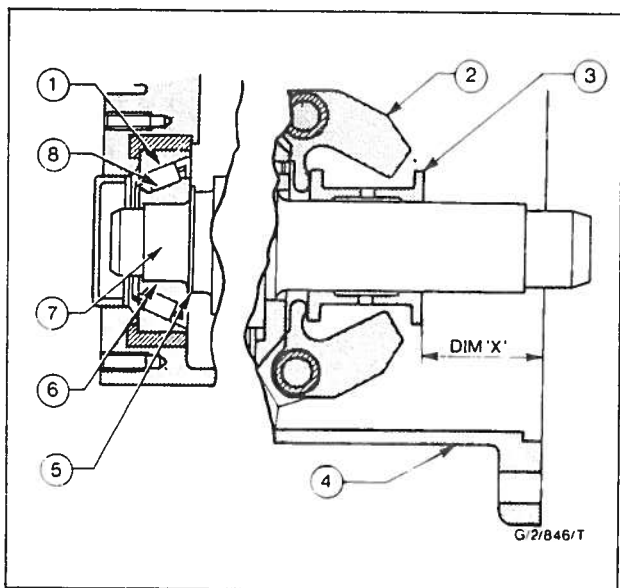

Fig. 20 Checking Dimension 'X'
Fitting a new camshaft, pump housing, governor weight assembly or governor can affect the camshaft end float and any or all of the four dimensions shown (Figs. 20 and 21).
1. Place one thick and one thin shim (Fig. 20) onto the camshaft and press on the inner race. Insert the camshaft complete with governor weight assembly and thrust sleeve